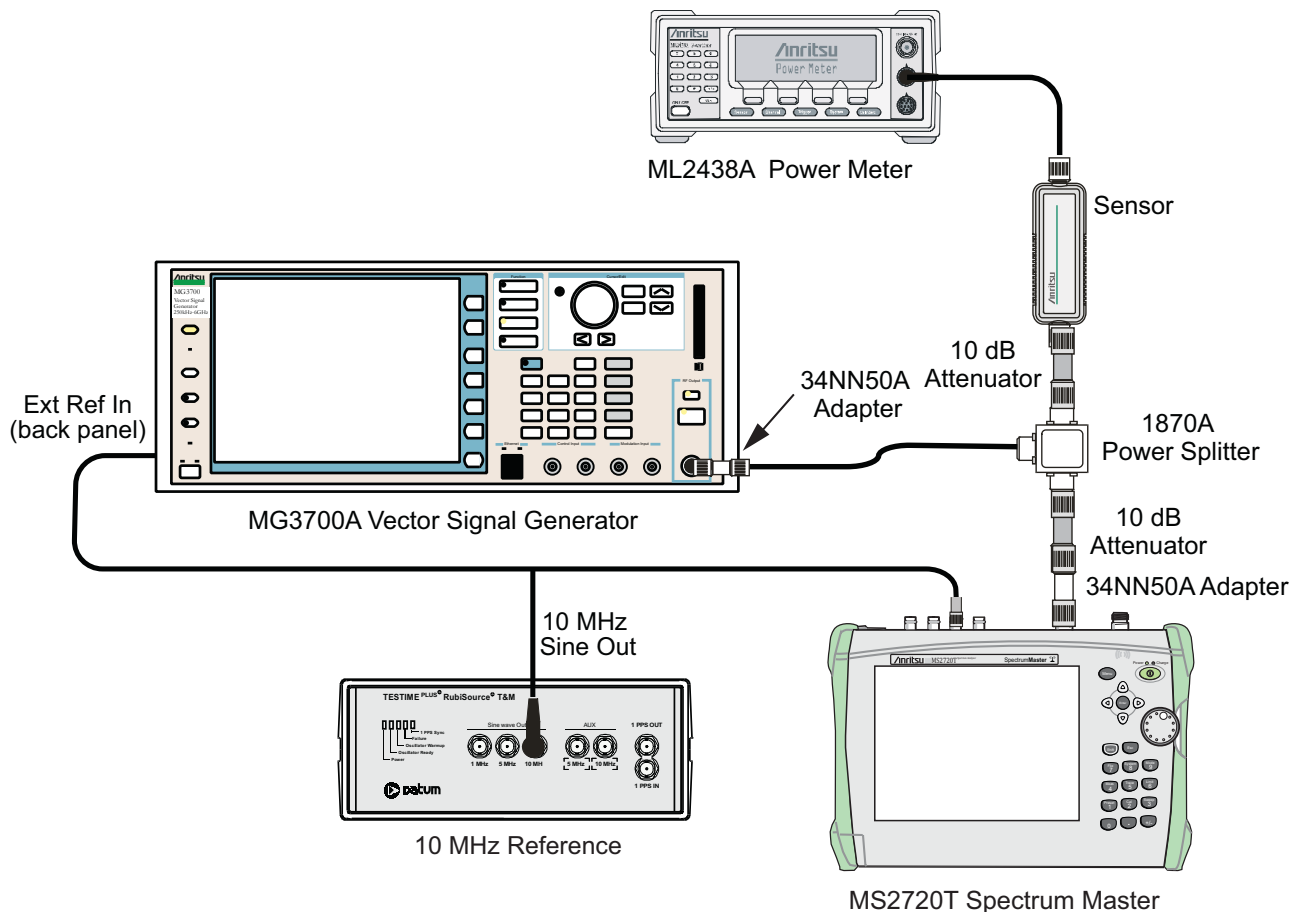

Figure 3-7. WCDMA Occupied Bandwidth, Test Setup
3. Connect the MG3700A, splitter, attenuator, power meter, and sensor as shown in Figure 3-7.
4. Press the **On/Off** key to turn on the MS2720T and wait until the measurement display appears. Then press the **Shift** key then press the **Mode** (9) key to activate the mode selection menu.
6. Press the **Shift** key, the **Preset** (1) key, and then the **Preset** submenu key.
4. Press the **On/Off** key to turn on the MS2720T and wait until the measurement display appears. Then press the **Shift** key, and then press the **Mode** (9) key to activate the mode selection menu.
6. Press the **Shift** key, the **Preset** (1) key, and then the Preset submenu key.
4. Press the **On/Off** key to turn on the MS2720T, and wait until the measurement display appears. Then press the **Shift** key, and then press the **Mode** (9) key to activate the mode selection menu.